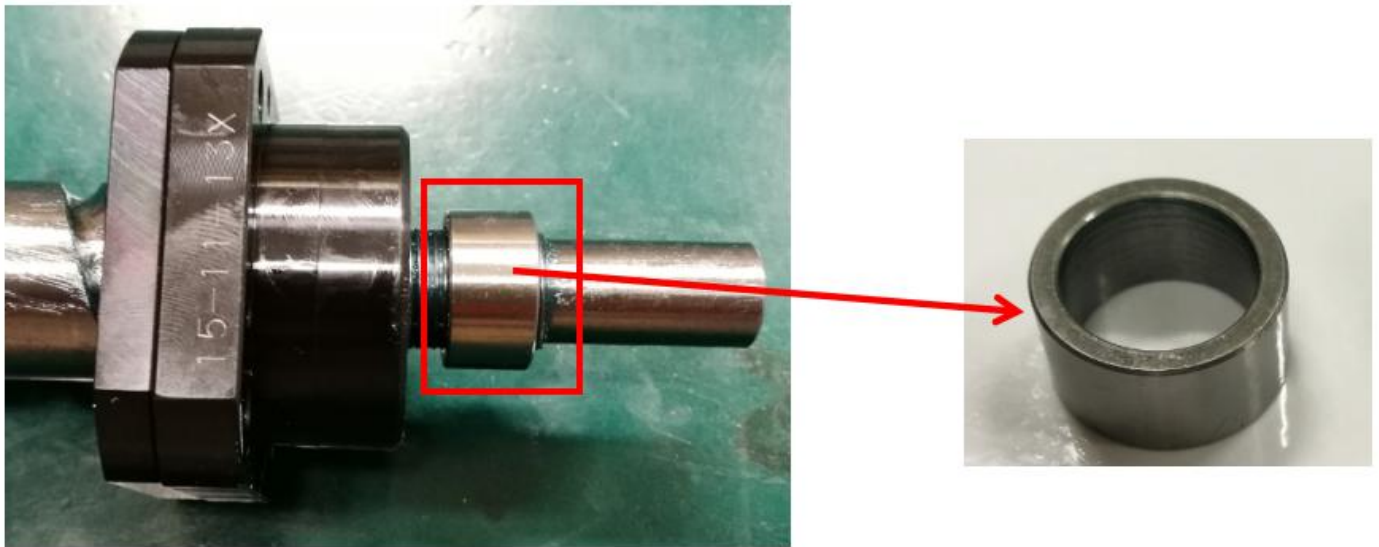

Figure 15 Silver Spacer Removal
16. Gently remove silver spacer as below Figure 15.